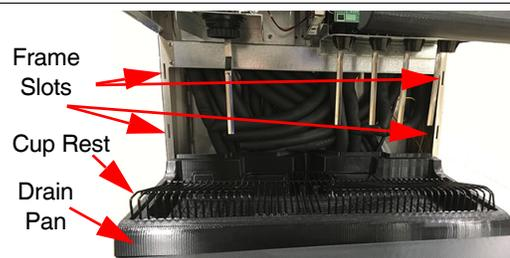
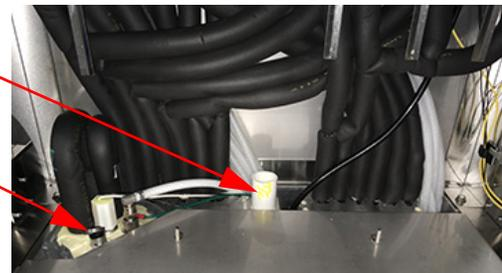

Figure 8
Figure 9
4. Remove the Cup Rest and Drain Pan as shown in Figure 8.
NOTE: The bottom of the drain pan has a drain tube that must be lifted up past the unit drain in order to remove the drain pan. See Figure 9.
1. Replace the drain pan. Refer to Figure 9 and Figure 8.
4. Replace the Cup Rest over the drain pan. Refer to Figure 8.